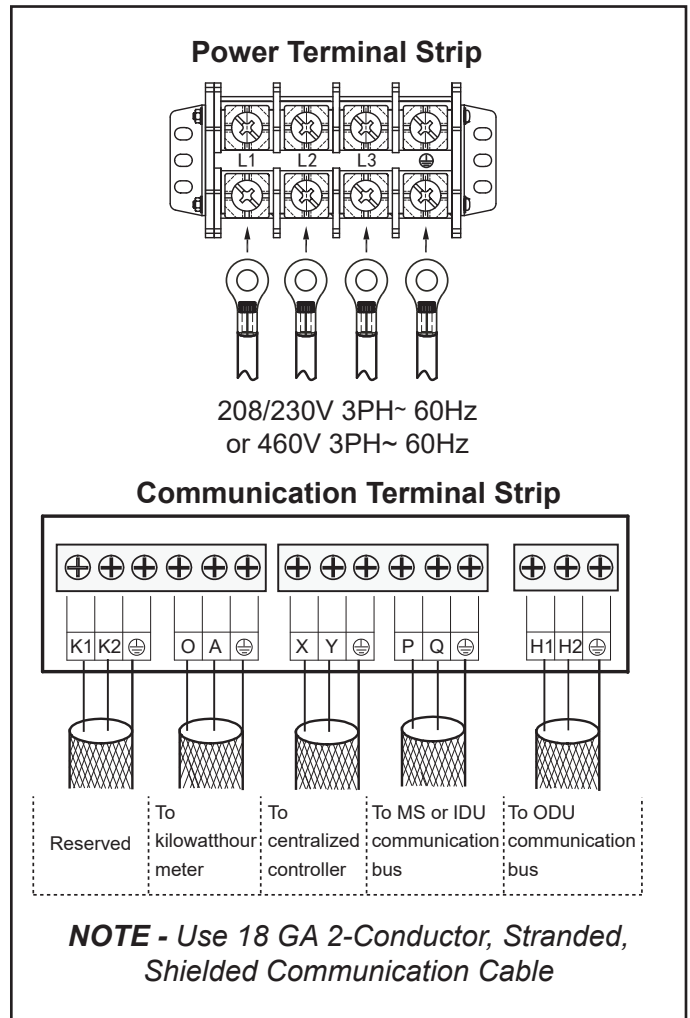

Figure 25. Wiring Terminals
- U-shaped connectors are combined in the field to connect refrigerant piping for the structure. See Figure 25.